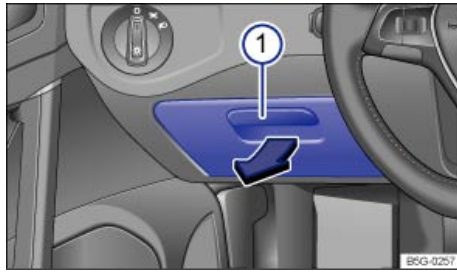

Fig. 112 On the driver side: Storage compartment.
To *open* the compartment, pull the handle ⇒ fig. 112 (1) in the direction of the arrow.